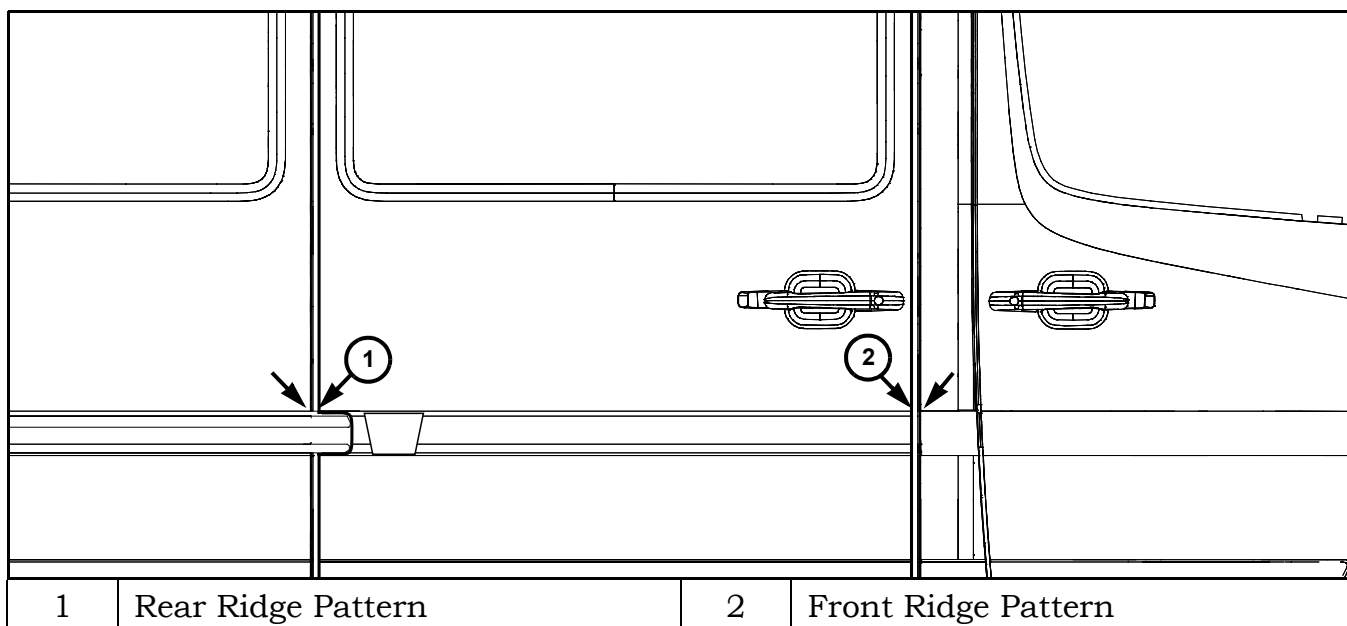

Figure 3 Sliding Door Ridge Pattern
2. Check the sliding door ridge at the B-pillar and side panel areas (Figure 3). The door ridge should be flush without offset.